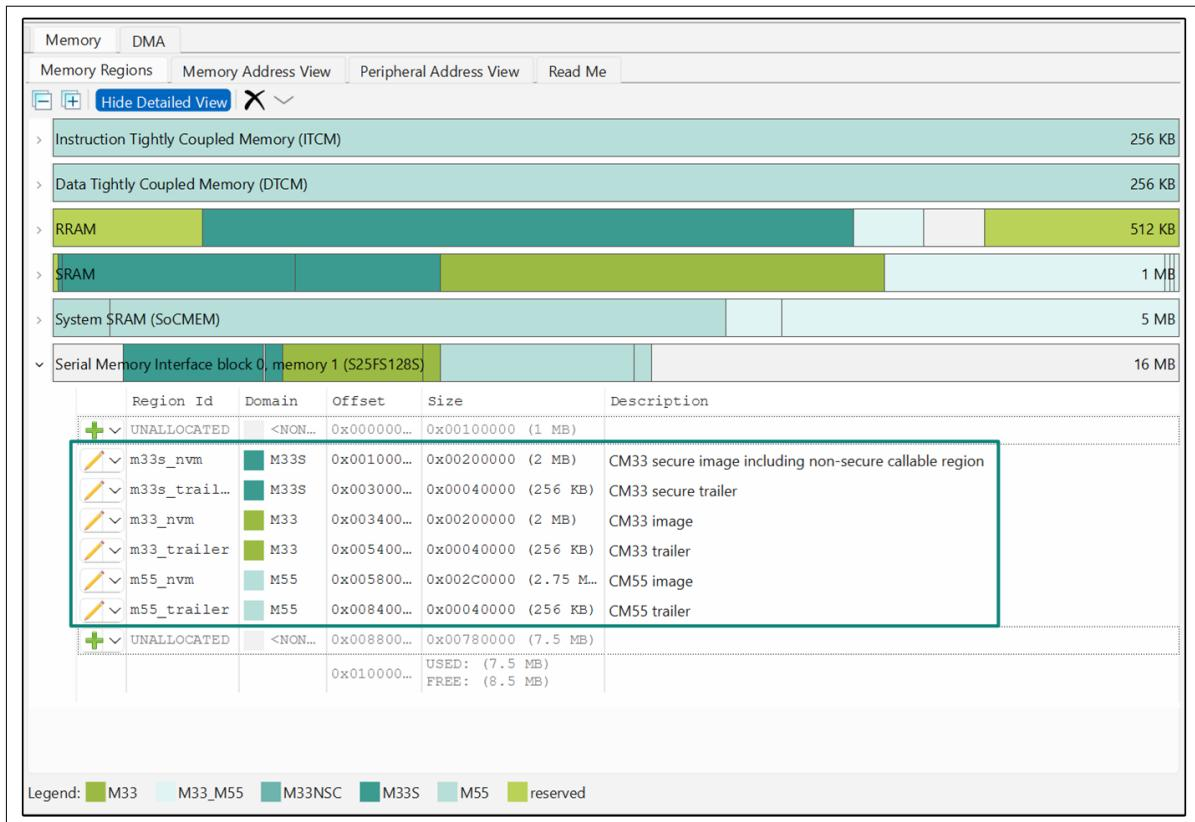

Figure 14 Default memory layout for external flash
2. Notice in Figure 14 that the external flash memory listed under `Serial Memory Interface Block 0` (SMIF0) allocates the memory regions for CM33 secure project (`m33s_nvm`), CM33 non-secure project (`m33_nvm`) and CM55 project (`m55_nvm`) along with other accompanying memory regions. We shall move all of these regions to the RRAM section by deleting the memory regions in SMIF0 and creating the new regions with the same region name in RRAM section. Keeping the same memory region names will help us to use the default linker scripts of the BSP.